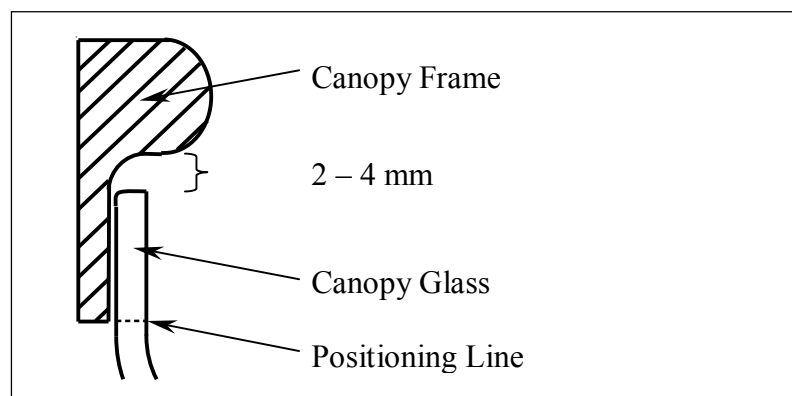
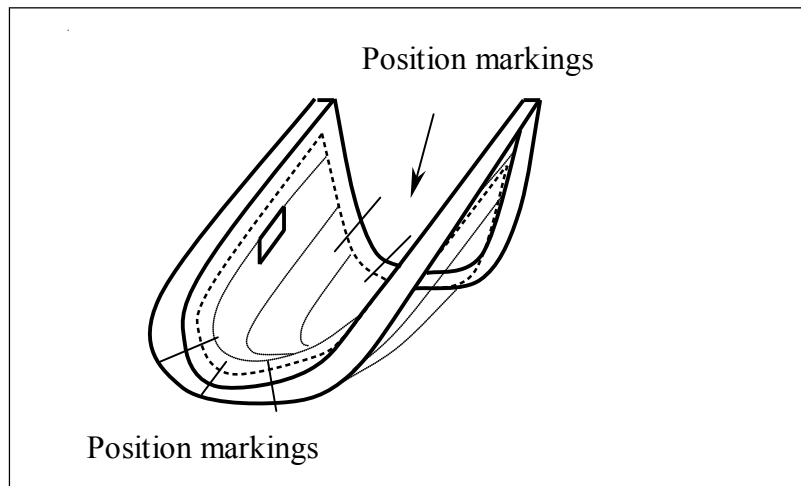

Figure 7 Typical cross section of canopy bonding area
Figure 8 *Canopy Position Markings*
Figure 7	Typical cross section of canopy bonding area 12
Figure 8	Canopy Position Markings 13
- 6 Secure the canopy glass in the frame. Draw a positioning line (see figure 7) and position markings on the inside (see figure 8).